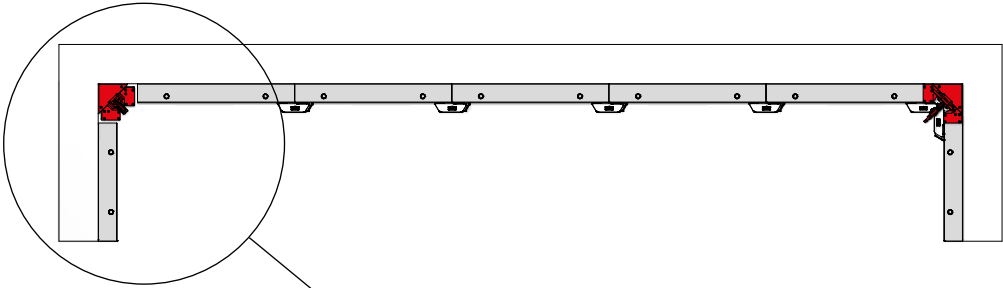

Fig. 34.2
- 2. Activate the M stripping corner (Fig. 34.2 and pages M350-31 to -33).